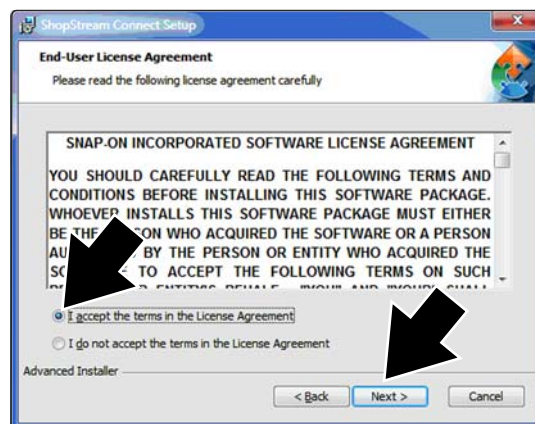

Figure 3-3 Typical License Agreement screen
- c. Select **Next** to continue (Figure 3-3).